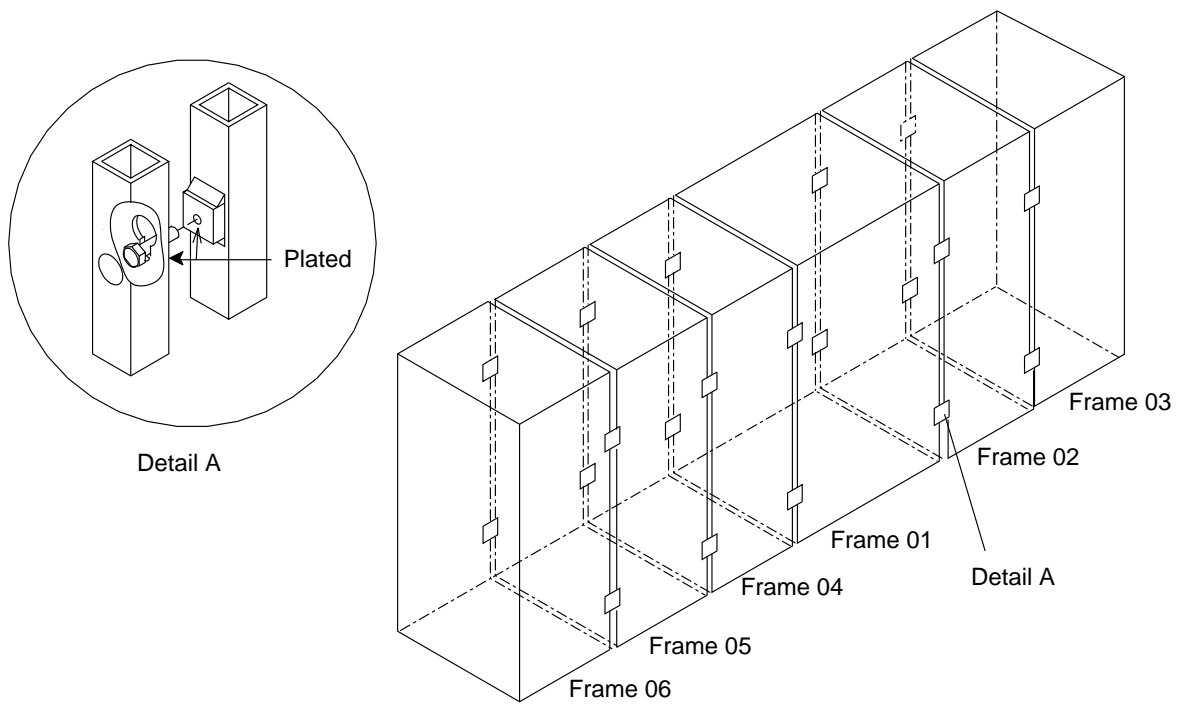

Figure 2-3. Frame Attachment
4. \_\_\_\_ Using a 7/8 wrench, make a leveling pad adjustment on the 3746-A11. Align the frame bolt holes, remove black shield covers if needed, and bolt the 3746-A11 to the 3745 using screws P/N 1621598 (see Figure 2-3 on page 2-3).
3. \_\_\_\_ Using a 7/8 wrench, make a leveling pad adjustment on the 3746-A12. Align the frame bolt holes, remove black shield covers if needed, and bolt the 3746-A12 to the 3746-A11 using screws P/N 1621598 (see Figure 2-3 on page 2-3).
3. \_\_\_\_ Using a 7/8 wrench, make a leveling pad adjustment on the 3746-L13. Align the frame bolt holes, remove black shield covers if needed, and bolt the 3746-L13 to the 3745 using screws P/N 1621598 (see Figure 2-3 on page 2-3).
needed, and bolt the 3746-L14 to the 3746-L13 using screws P/N 1621598 (see Figure 2-3 on page 2-3).
3. \_\_\_\_ Using a 7/8 wrench, make a leveling pad adjustment on the 3746-L15. Align the frame bolt holes, remove black shield covers if needed, and bolt the 3746-L15 to the 3746-L14 using screws P/N 1621598 (see Figure 2-3 on page 2-3).